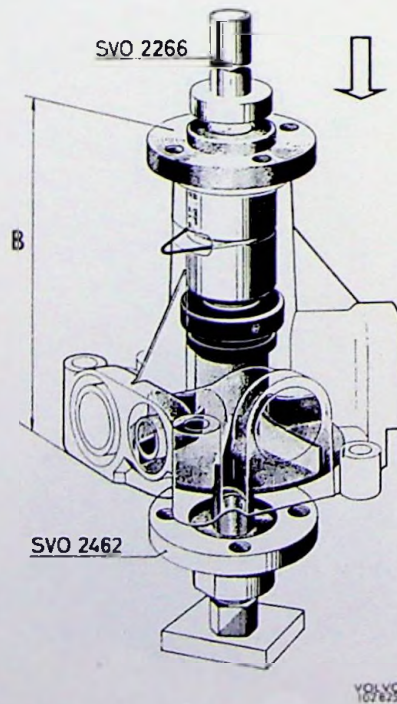

Fig. 117. Fitting the pulley
4. Turn the pump. Place a counterhold under the shaft end in the hold of the impeller and press on the hub with drift SVO 2266. As a counterhold, use for example puller SVO 2462 with the centre screw screwed in so that it supports against the shaft. Carefully press so far that dimension B in Fig. 117. will be 105 ± 0.2 mm (4.134 ± 0.008 ").